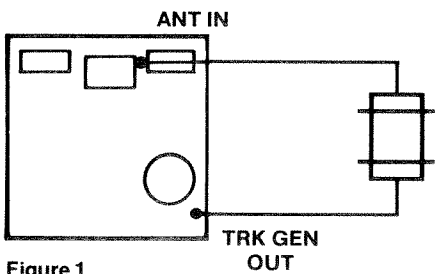

Figure 1
- ① Set FUNCTION switch to SPECTRUM.
- ② Set HORIZ switch to SPECTRUM MONITOR 1 MHz/Div.
- ③ Set SIG GEN LEVEL to -10 dBm; FINE control to -10 dB.
- ④ Set RF LEVEL switch to -20 dBm.
- ⑤ Set FREQUENCY SELECT switches to transmitter frequency.
- ⑥ Connect two double shielded coax together and connect the other ends to SIG GEN OUT and ANT IN (See Figure 1).
- ⑦ Adjust the SIG GEN FINE control to set the trace at the top of the CRT to compensate for the insertion loss of the coax test cables.